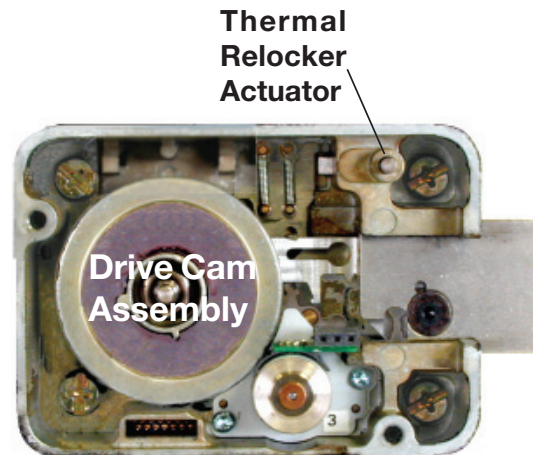

Figure 5 - Inside Lock Case Assembly
2. Remove the drive cam assembly from the lock case assembly. (See Figure 5.)